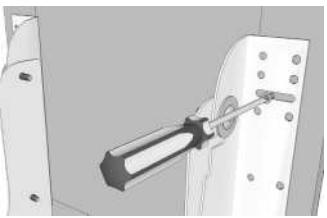

fig. 6
Step 8. Remove door mount brackets again and screw to inside of cabinet door with #6 x 1½" flat head screws. **NOTE:** Line up door mount bracket to cabinet door by aligning door mount bracket with the vertical and horizontal lines you marked in steps 6 and 7. (See figure 6)